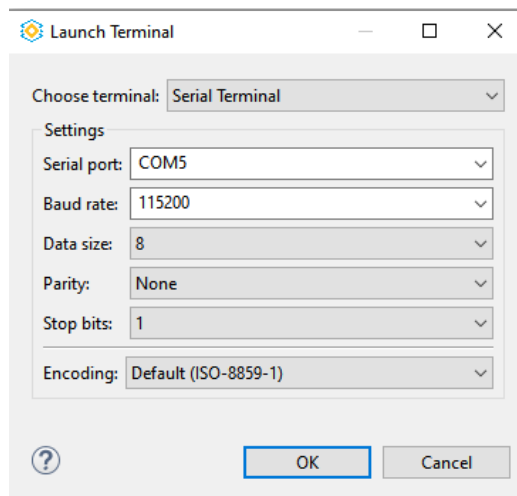

Figure 4.4. Propel Terminal: Com and Baud Rate Selection
5. **Choose terminal: Serial terminal** as shown in Figure 4.4.